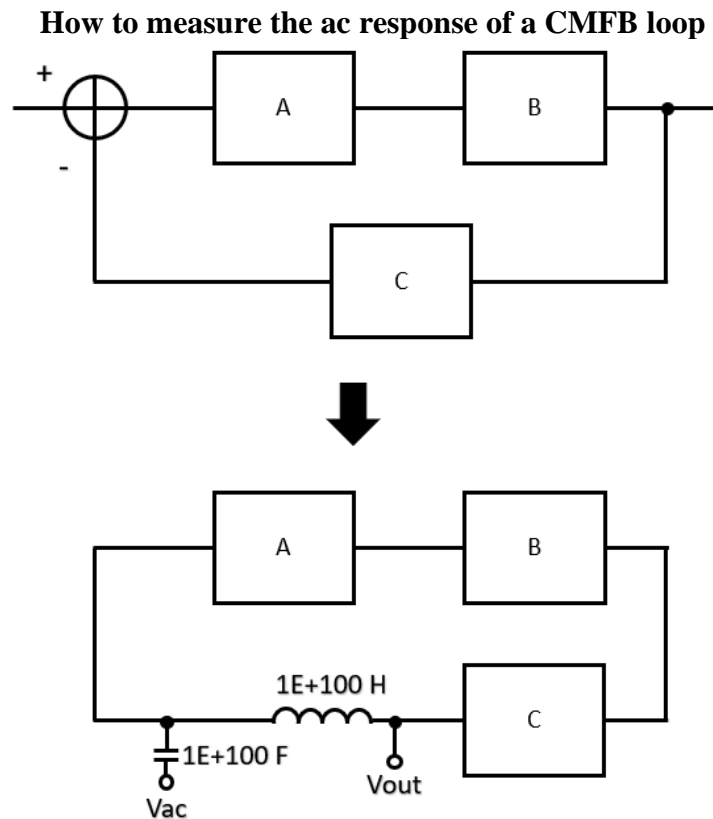

Fig. 4. Frequency Analysis of a Feedback Loop
4. Run the **ac** simulation to make sure your common-mode feedback loop is stable. Please note that the content must include the graph of gain and phase margin. Hints are provided in Fig. 4.